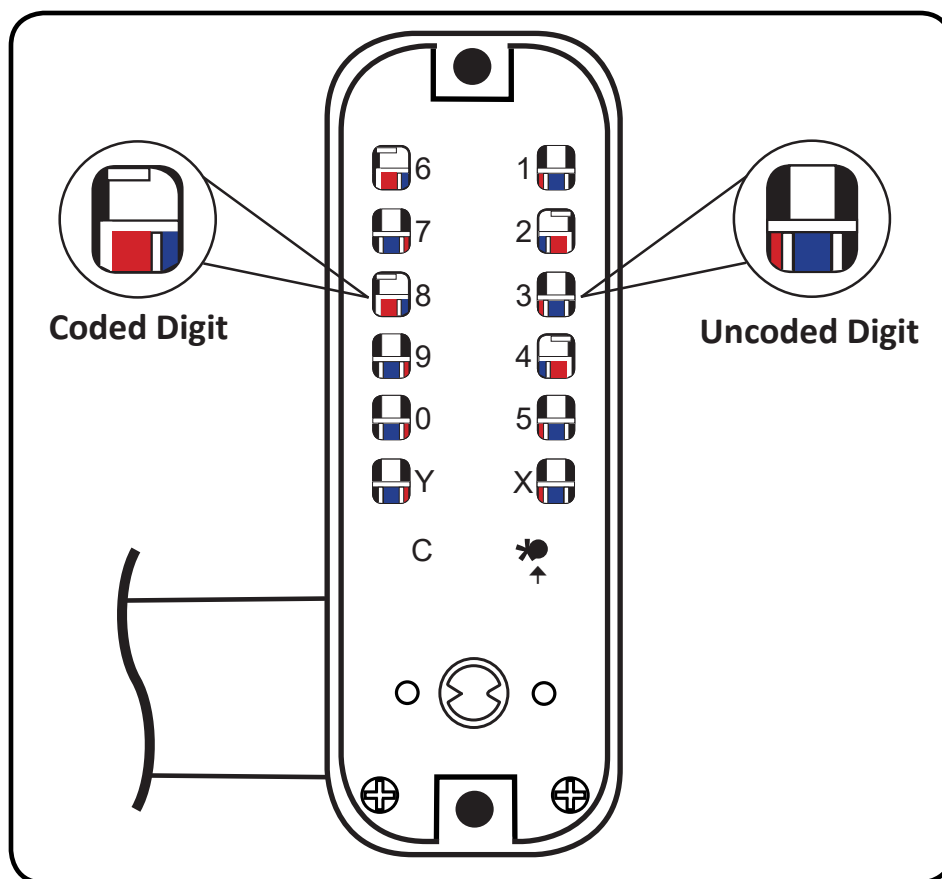

Fig.2
4. As per **Fig.2** below, you will see that the red lines on digits 2, 4, 6 and 8 are closest to the centre of the porthole and is therefore the code. All the other holes will show a blue line - these are not in the code.